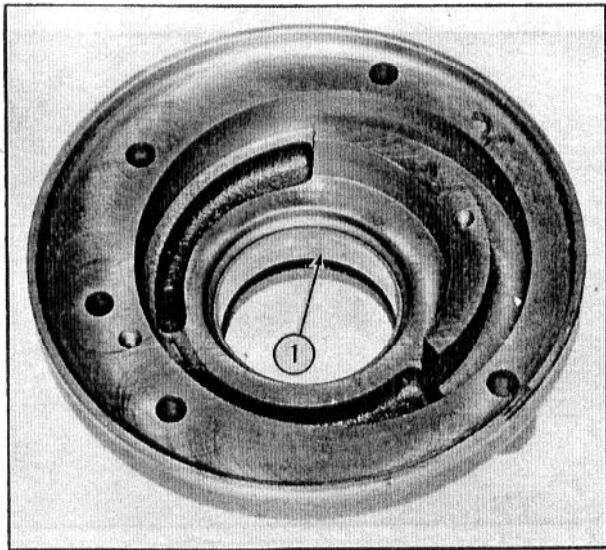

Fig. 28 - Pump Body
4. Check the babbit bearing surface in the pump body for scoring, gouging and grooving. See Fig. 28. (It is especially important that the babbit area be free of the defects stated, as it forms the major seal between the pump and the converter hub. The outer seal is there to stop the small amount of oil which seeps past the babbit surface. If, during the time of "splitting" the tractor, or reassembling it, guide studs are not used, it is almost certain that the lugs on the converter hub will peel, or gouge, a groove across the babbit surface. Should this happen, the front seal will become overloaded and begin to leak.)